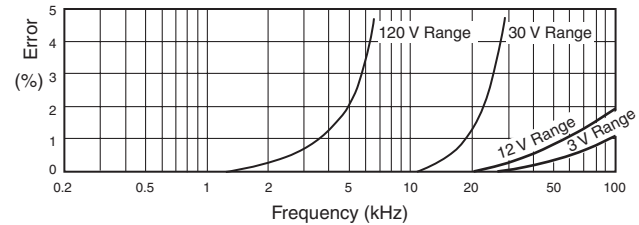

Fig 3.1 Frequency Characteristics
5. When it is desired to measure a voltage of high frequency, connect the **COM-** terminal to the ground side of the measuring circuit. This arrangement prevents indication errors caused by the stray capacitance between the tester and the ground. (Refer to **Fig 3.1 Frequency Characteristics** in which an example of the frequency characteristics is shown.)